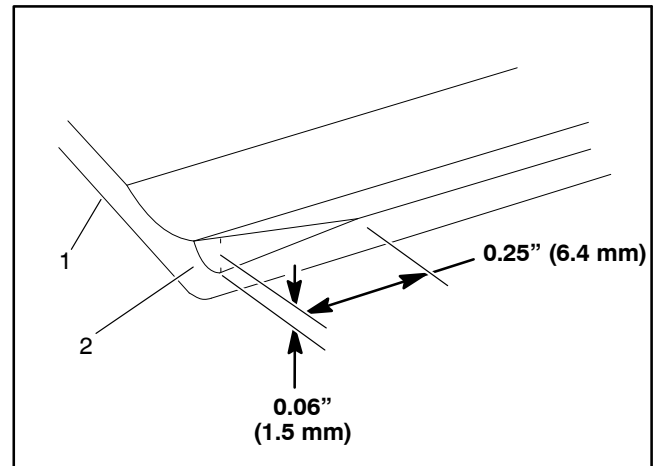

Figure 31
2. A lead-in chamfer is ground into all new bedknives (Fig. 31). The original chamfer should last for the first 40% of the bedknife service life. Check and re-grind the lead-in chamfer as necessary.